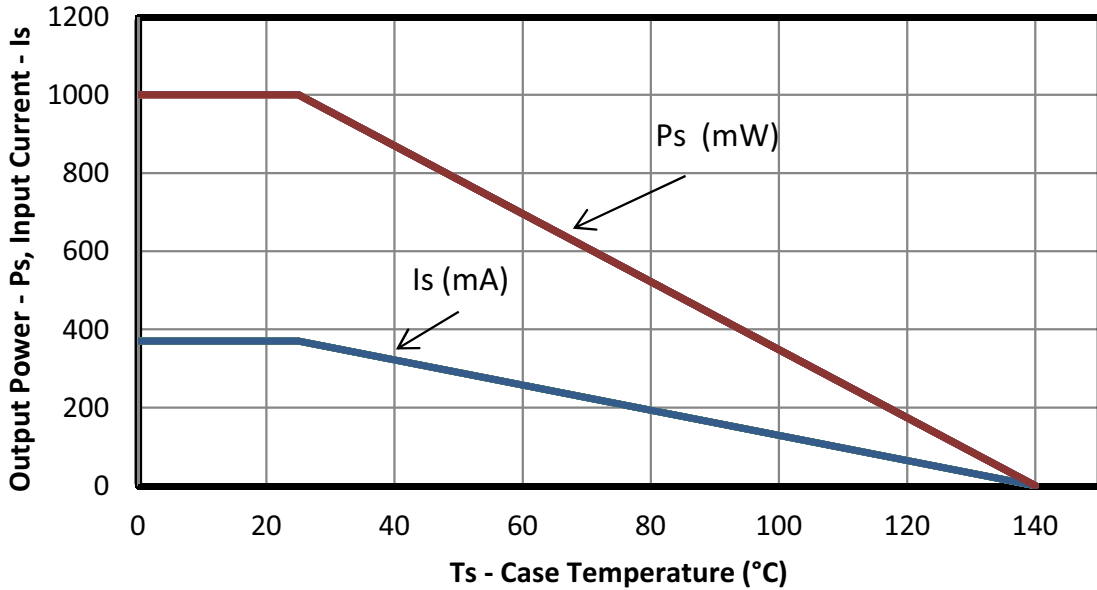

Figure 5. (SOIC-8) Thermal Derating Curve, Dependence of Safety Limiting Values with Case Temperature per VDE0884-10
***Note:** Maximum value allowed in the event of a failure; also see the thermal derating curve in Figures 5, 6, 7, and 8.